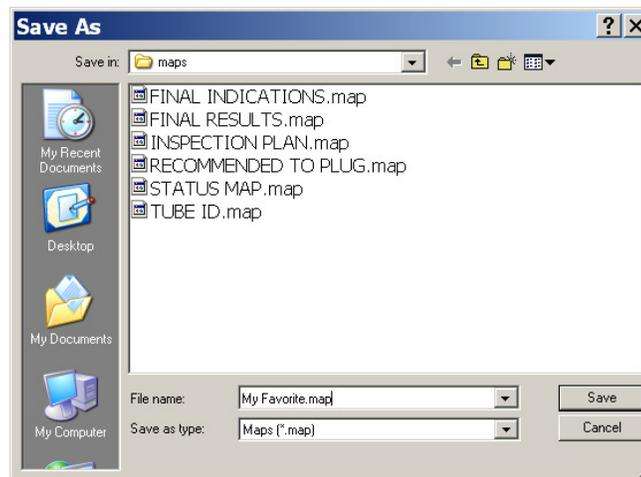

Figure 8. File | Save Map As Dialog
- **File | Save Map** (Ctrl+S) automatically saves the currently displayed *map* to the *[project] \maps* directory using the same filename. If **File | Save Map** is selected for a *map* that has not been previously saved, a **Save As** dialog like the one shown in Figure 8 is displayed and the instructions below for **File | Save Map As** apply. Once saved, a message in the **Status Bar** is displayed informing the user that the *map* was saved to *[project] \maps \ [map\_filename .map]*.
- **File | Save Map As** displays the typical **Save As** dialog shown in Figure 8. Type the desired name for the *map* file in the **File name:** field. There is no need to add the *.map* extension to the name since the program will add it automatically. Once saved, a message in the **Status Bar** is displayed informing the user that the *map* was saved to *[project] \maps \ [map\_filename .map]*.